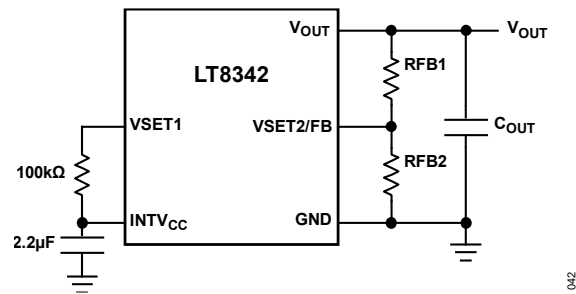

Figure 42. Simplified LT8342 External Feedback Configuration
The resistance in equation (3) refer to reference designators in *Figure 42*. The 1% resistors are recommended to maintain output voltage accuracy. When using large feedback resistors, a $4.7pF$ to $22pF$ phase-lead capacitor may be required from V_{OUT} to VSET2/FB. Note that when external feedback is used, if the fault occurs where VSET2/FB is short to ground, instead of producing an excessively high output voltage, as shown in *Table 6*, LT8342 will automatically switch to internal feedback with 19V output regulation.